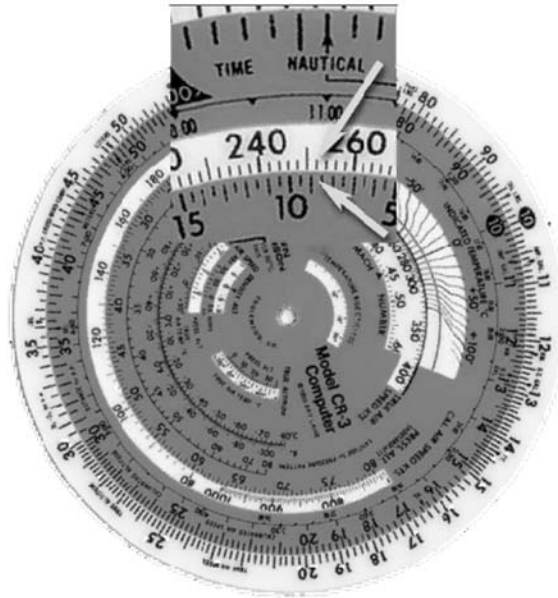

Figure 4.4-9 Mach 1
1. Set the CAS from the problem (remember to convert IAS to CAS if necessary) over the PA (which, again, may have to be calculated as in the previous problem). Remember, the scales increase in opposite directions! (Figure 4.4-9)